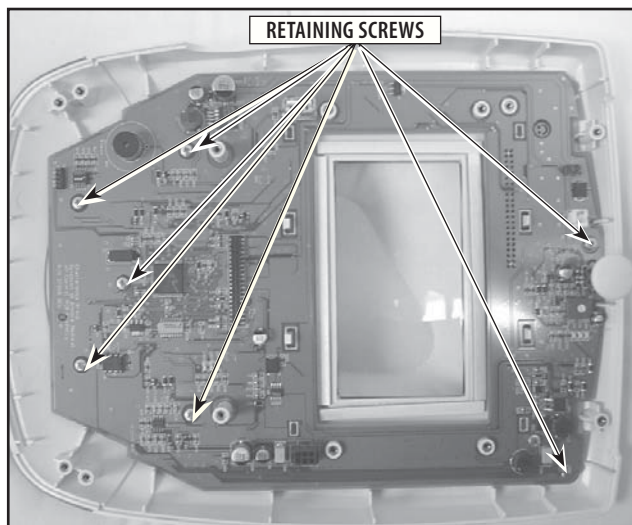

FIGURE 6.18
4. Remove the 7 retaining screws securing the Control Board to the housing. **Refer to Figure 6.18.**